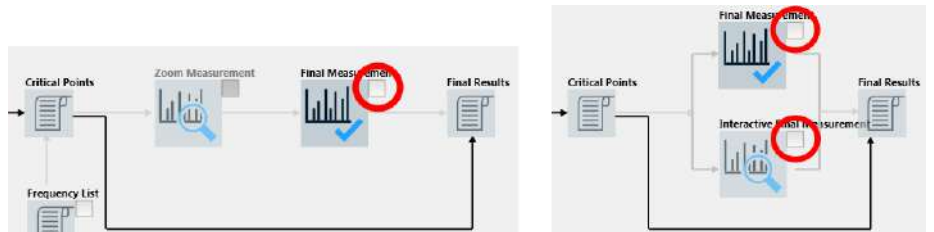

Figure 4-61: Skipping the final measurements uses the critical points as the final result
To let the software do so, disable the "Final Measurements" checkbox as in Figure 4-61.
However, you can apply a "skip" mode and use the critical points results as final results. To apply this mode, disable the checkbox as in Figure 4-61.
- The left-hand screenshot in Figure 4-61 shows the case with activated "ELEMI-S" license.